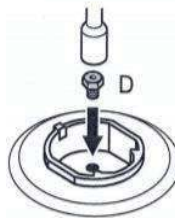

Figure 12.2
Fix the injector (D) you want to convert as shown in the Figure 12.2 (see Table 1 at the end of this manual).